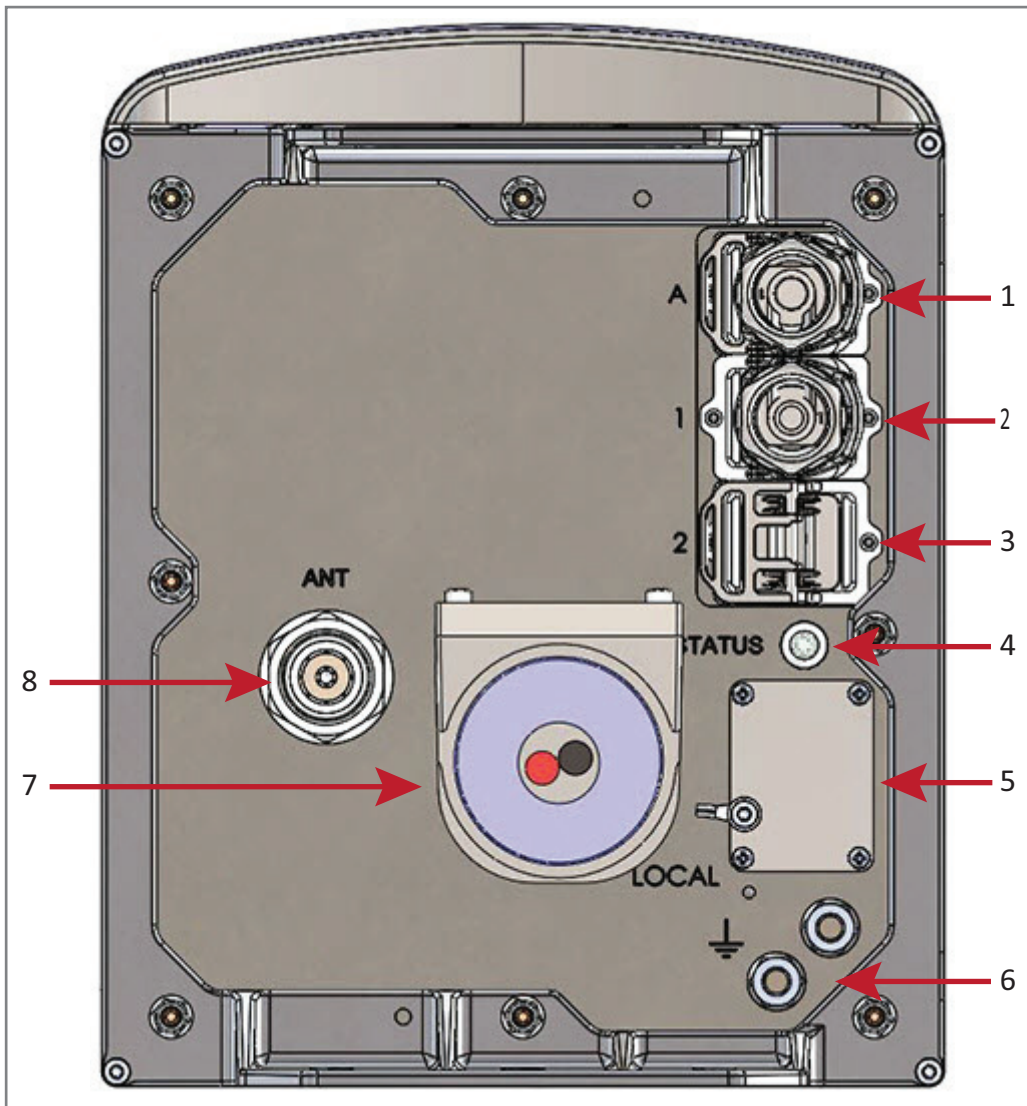

Figure 3. Location of Connectors and Status LED on DC Version with One Antenna Connector
- Table 2 on page 7 maps the callouts in Figure 2 and Figure 3 on page 8 and describes the connectors and STATUS LED.
- Figure 3 on page 8 shows the connectors on a DC version of the CAP H that has one antenna connector.
The "REF #" column in Table 2 refers to the callouts in Figure 2 on page 6 and Figure 3 on page 8.